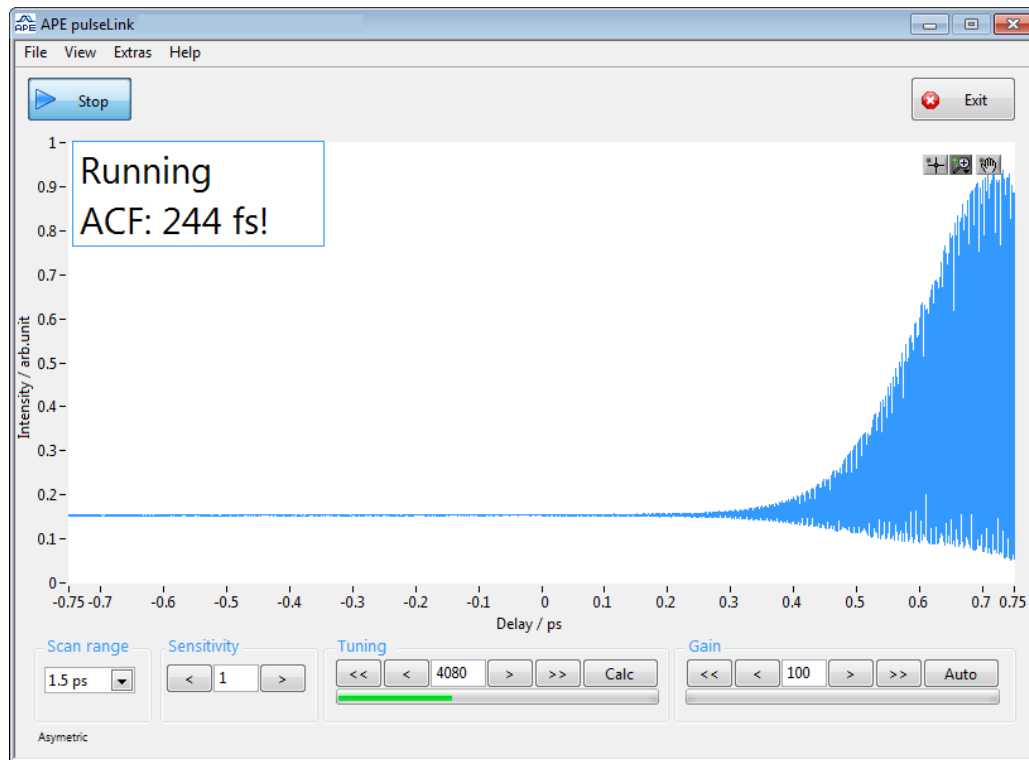

Figure 4.36.: Example of an asymmetric signal due to a large delay offset.
- Asymmetric signal: An SHG autocorrelation function is always symmetric by definition. If the measured autocorrelation trace deviates too much from symmetry the info line shows an "asymmetric" error message (see Figure 4.36).